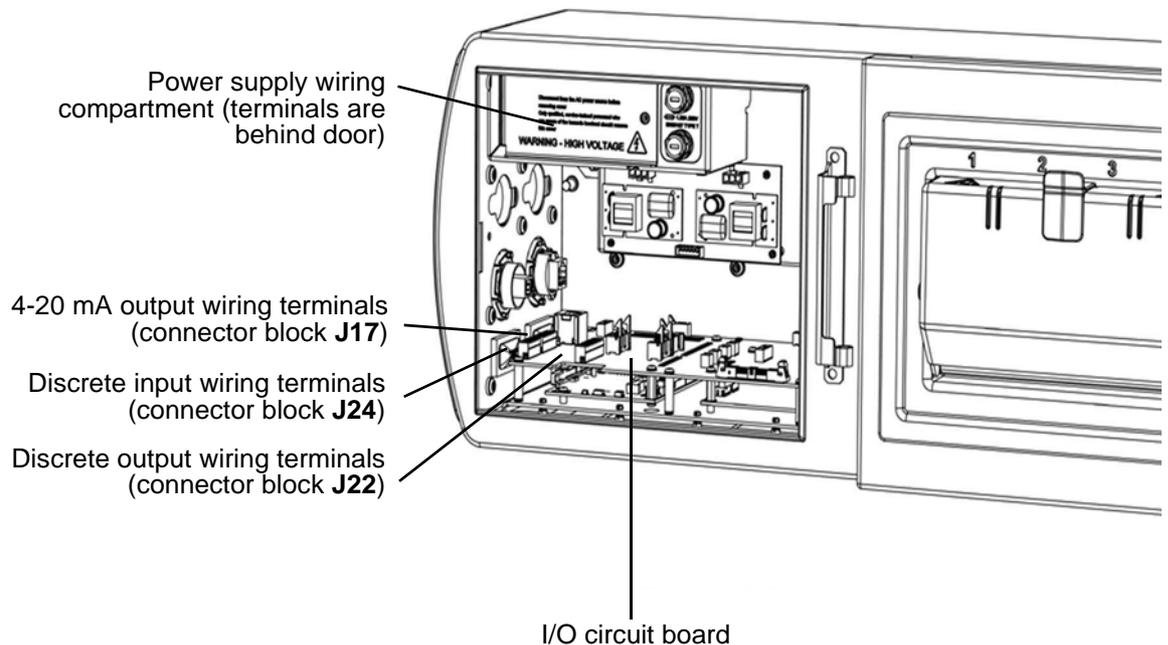

Figure 2-9 PAT700 power supply and I/O wiring terminals
- Power supply and I/O wiring connects to terminals in the compartment behind the analyzer's display unit. Figure 2-9 illustrates power supply and I/O wiring terminals. To access the terminals: